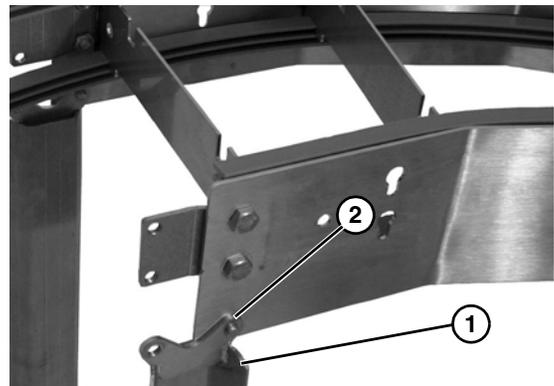

Figure 7
2. When attaching stand (Figure 7, item 1) to curved section on inside curve, make sure mounting hole on stand (Figure 7, item 2) is to the outside of curve section and head of bolt is on the inside of curve section.